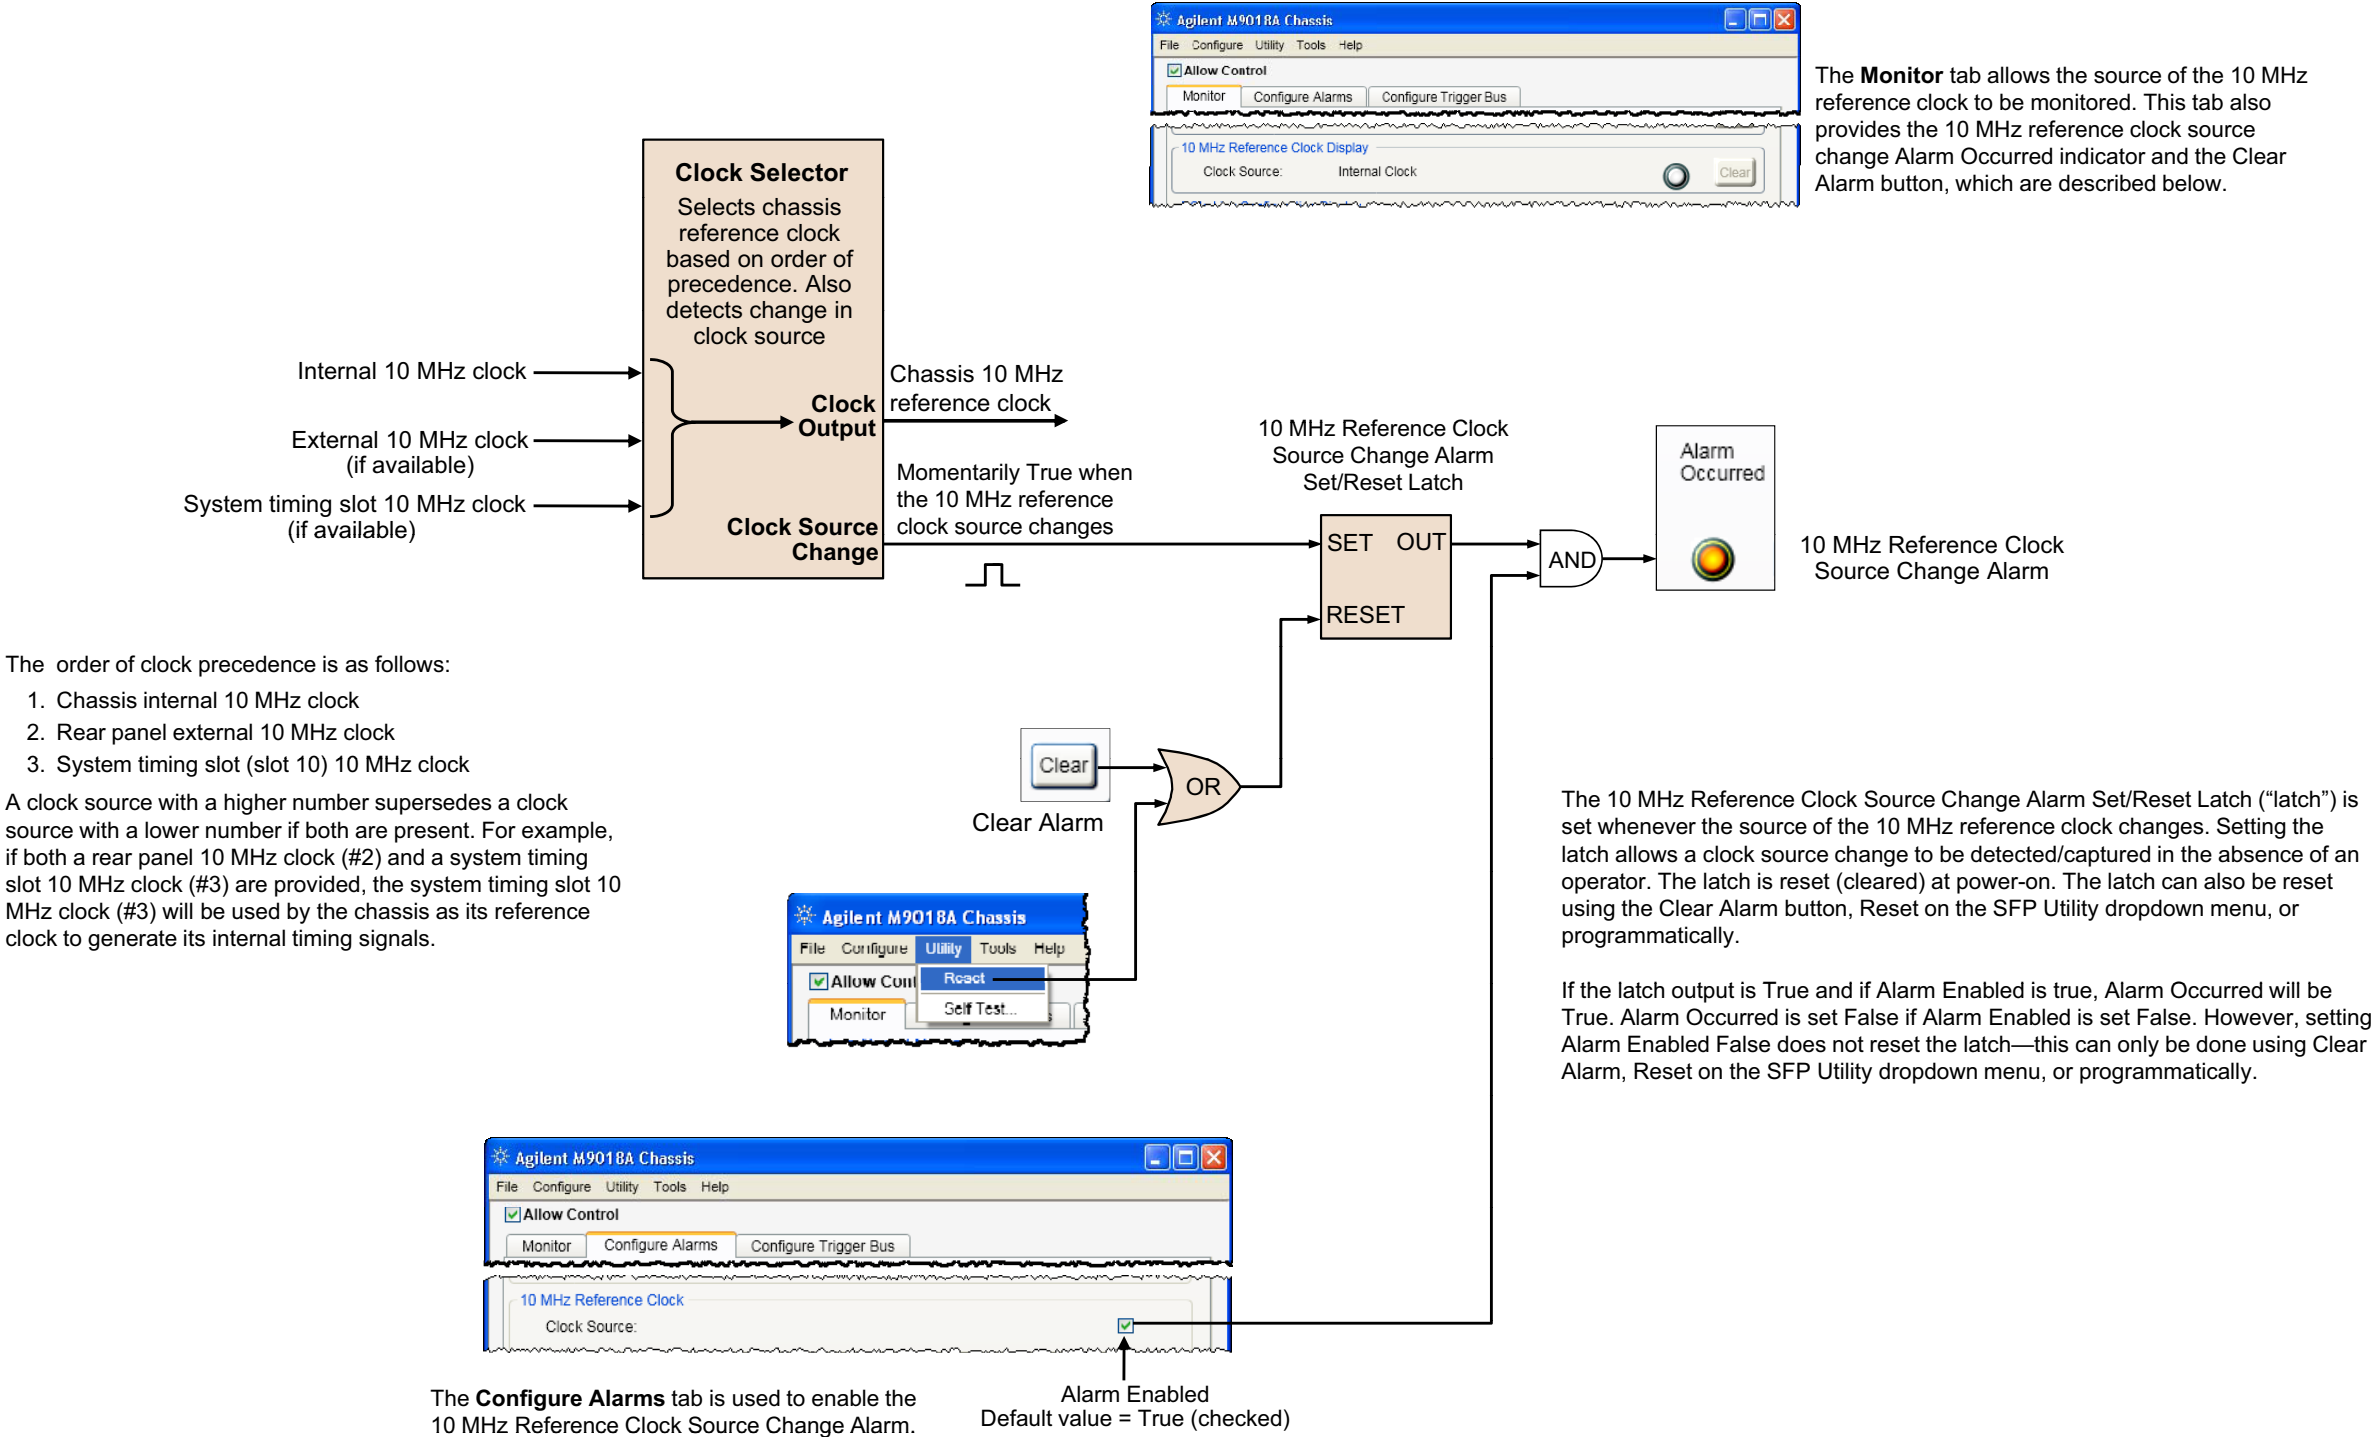

Figure 30
- Using the SFP – Figure 30 on page 58